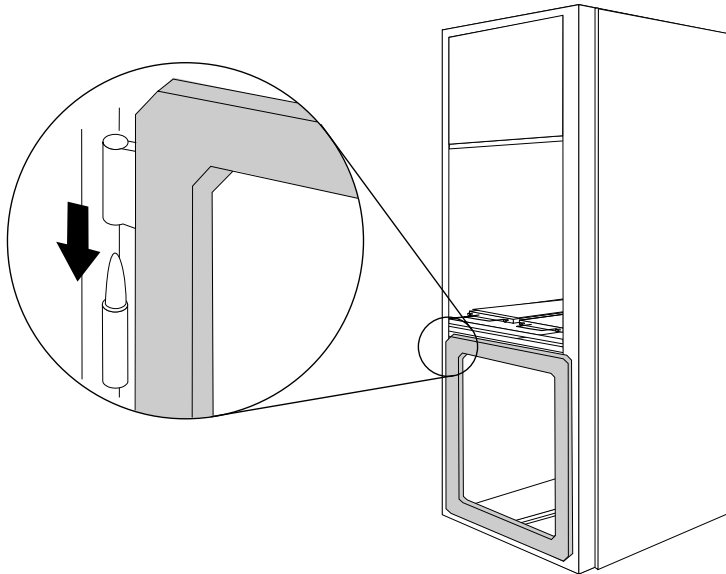

Figure 15. Installing the PC Server Expansion Rack cabinet doors
- c. Hang the doors on the appropriate hinges (see Figure 15).